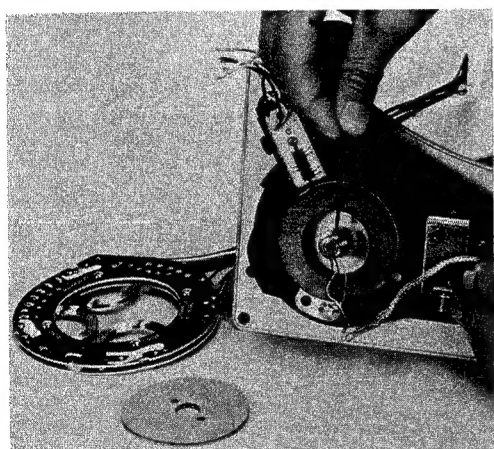

Fig. 15
2. Remove the coil circuit board. (Fig. 15)
3. Removal of Yoke A (Figs 15 and 16)